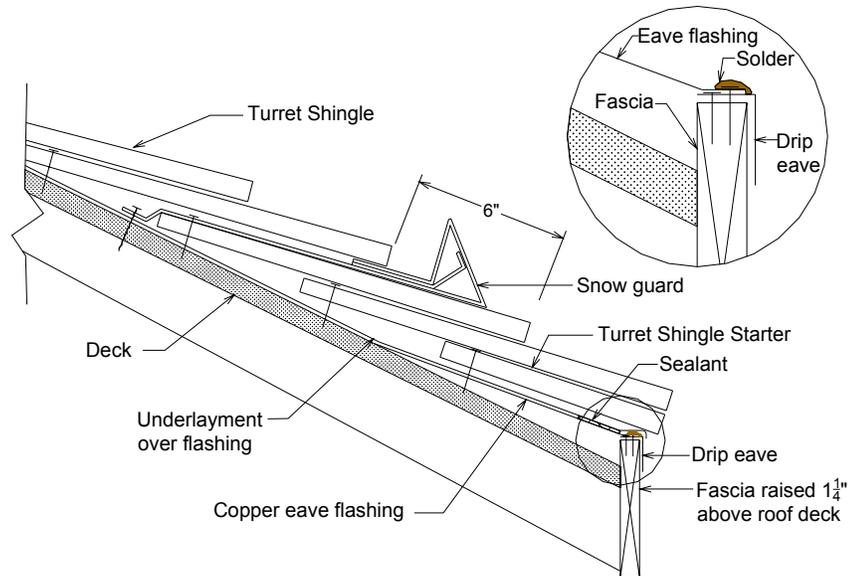

FIGURE 25. EAVE METAL WITH TURRET SHINGLES ON CURVED EAVES – SIDE VIEW
20. Eave metal for turrets is fabricated in the field using a 1" X 1½" drip eave and 15½" flat stock copper. Fit the drip eave to the curve of the fascia by running the 1" side through a metal shrinker or by cutting numerous tabs. Use 1" R/S copper nails to nail the drip eave to the top of the fascia that is raised 1¼" above the roof deck. (Figure 25) Field cut 2, 3, or 4 pieces from 10 foot lengths of the 15½" flat stock eave flashing as required to accommodate the curve at the eave. Copper must extend approximately 8" up the roof to the back of the turret shingle starter. Scribe and snip eave flashing to fit the curve of fascia. Position copper eave flashing ¼" from front edge of drip eave. Nail with 1" R/S copper nails and solder. (Figure 24-25)